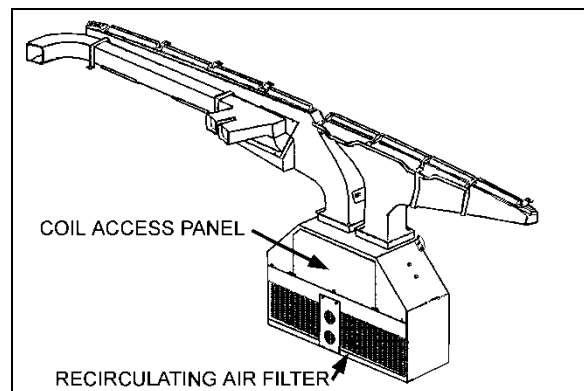

FIGURE 14: DRIVER'S UNIT AIR FILTERS 22171
**Once a year**, gain access to the driver's unit, remove the coil access panel (Figure 14) and clean the **driver's** unit evaporator and heater coils with low pressure air jet, taking care not to damage fins. Clean the bottom of the defrost plenum.